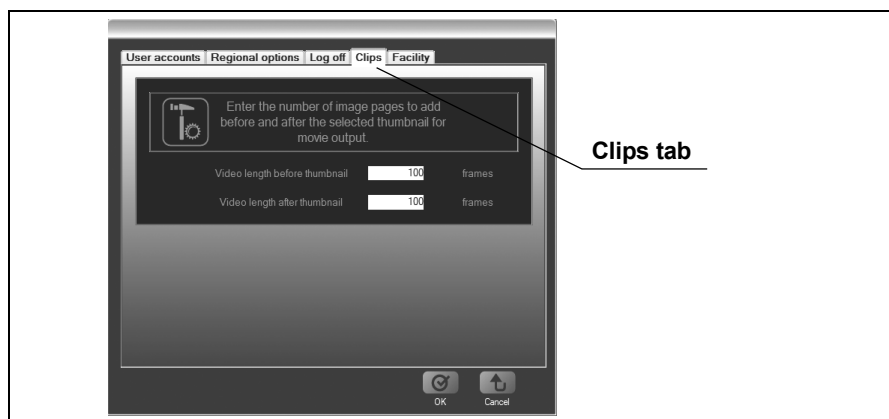

Figure 6.107
2. Click the “Clips” tab. The movie settings screen is displayed (see Figure 6.107).